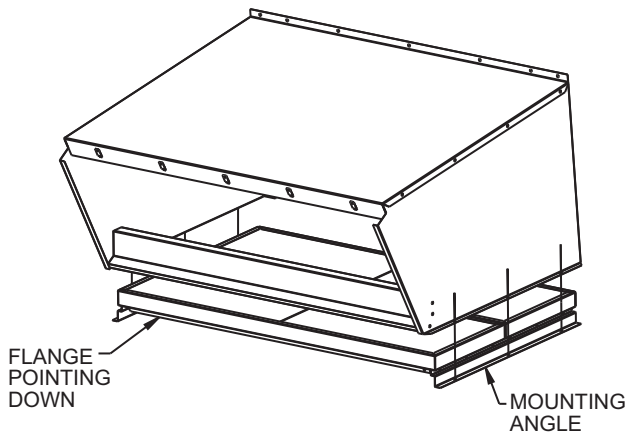

Fig. 36 — Bottom Filters Installed with Flange Pointing Down
12. Attach filter track under the hood assembly. See Fig. 36.